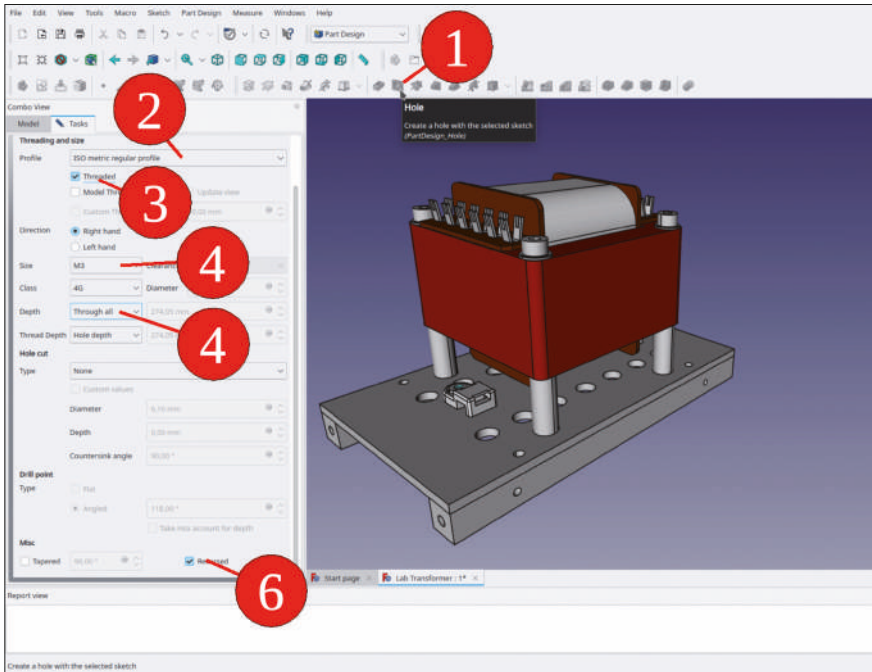

Figure 9-131
38. In the tree view, mark the new sketch and click the 'Hole' tool button. In the task window, select 'ISO metric regular' for the profile and check the 'Threaded' checkbox. For the size, select M3. Set the depth to 'Through all' and check the 'Reversed' checkbox (Figure 9-131). Close the task window with the 'OK' button.